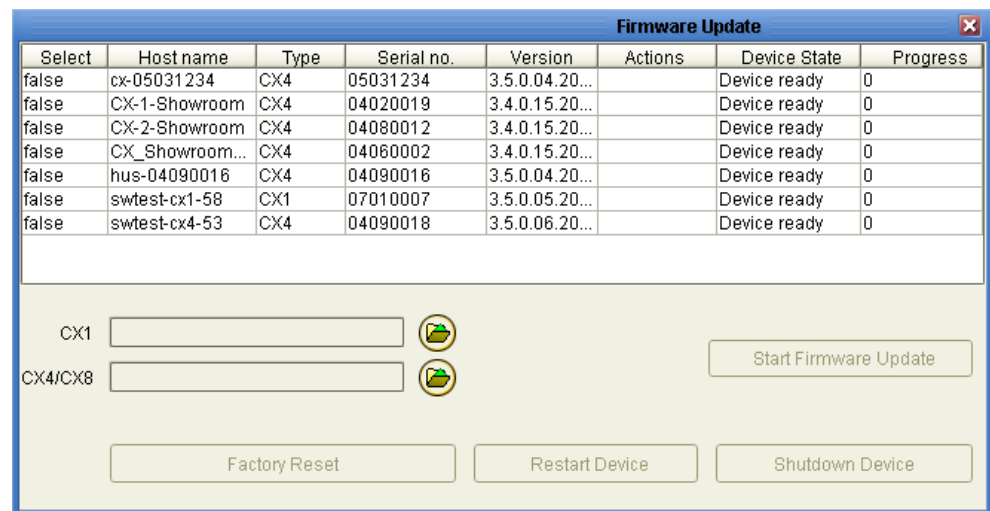

Fig. 8 "Firmware Update" dialog box
1. Select a device in the **Select** column (see Fig. 8).